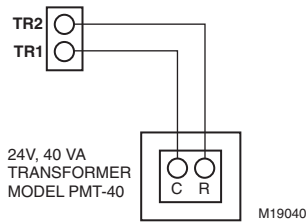

Fig. 8. Transformer wiring diagram.
5. Connect a 40 VA, 24 volt transformer (not supplied) to TR1 (common) and TR2 (hot). This must be a dedicated transformer. See Fig. 8.